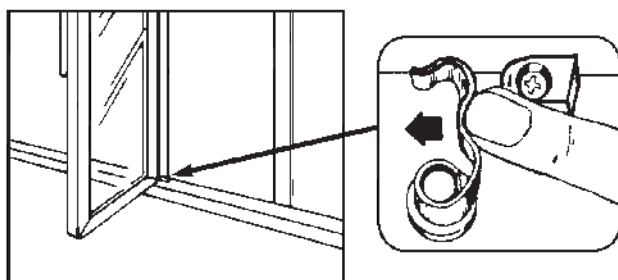

Figure 13
6. To keep door in open position, open door fully and push Hold-open retainer, To release, close door. Refer to Figure 13.